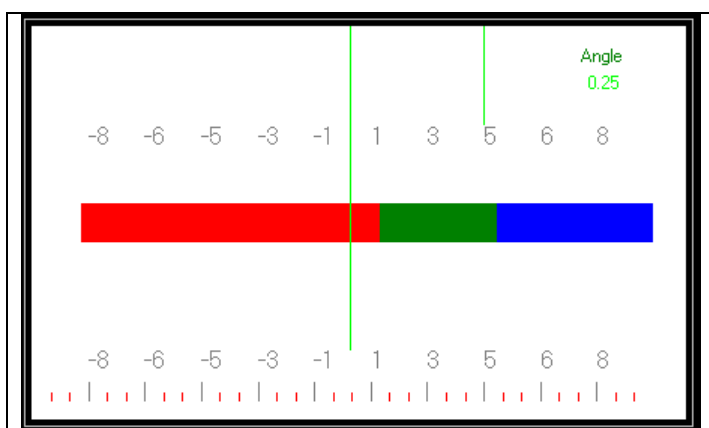

Figure 3-36 Linear Gauge Widget (Gauges/Charts)
The **Linear Gauge** widget, shown in Figure 3-36 below, can display up to eight (8) individual parameters from up to twelve (12) streams, including formulas and functions. The Linear Gauge can have one or two separate scales as well as individual control on arrow length and width, as well as min/max values.